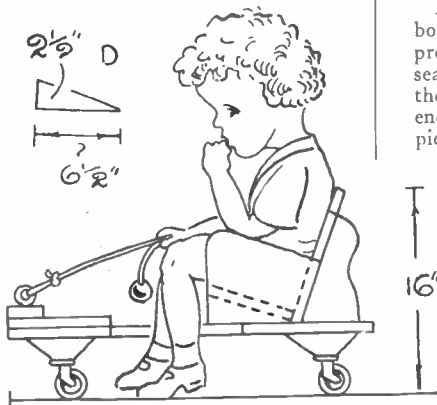
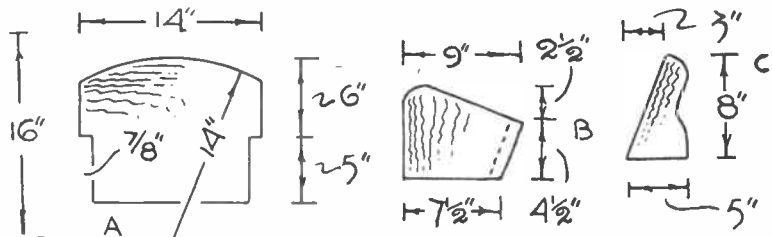

Fig. 2—A flat cut-away side detail
Fig. 3—Some of the body part shapes and dimensions of each
A form of bucket seat makes up the body of the car, so get the pieces prepared as detailed at Fig. 3. The seat back (A) is made first. Shape the top edge as shown, then check the ends to take the thickness of the side pieces (B).
The seat rests on wedge-shaped pieces of wood (D) as detailed at Fig. 2. When cut out, glue them to the inside of the sides, then place the seat on top and drive nails into the ends from the outside of the sides. To give extra strength to the seat back, brackets are cut to the shape shown (C) at Fig. 3. These are best fixed in position by means of screws rather than nails; note from the top plan that they sit in about 1in. from the outside of the sides.